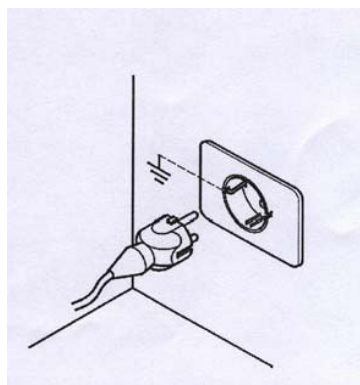

Figure 9
- Connect the stove to a grounded socket. Figure 9